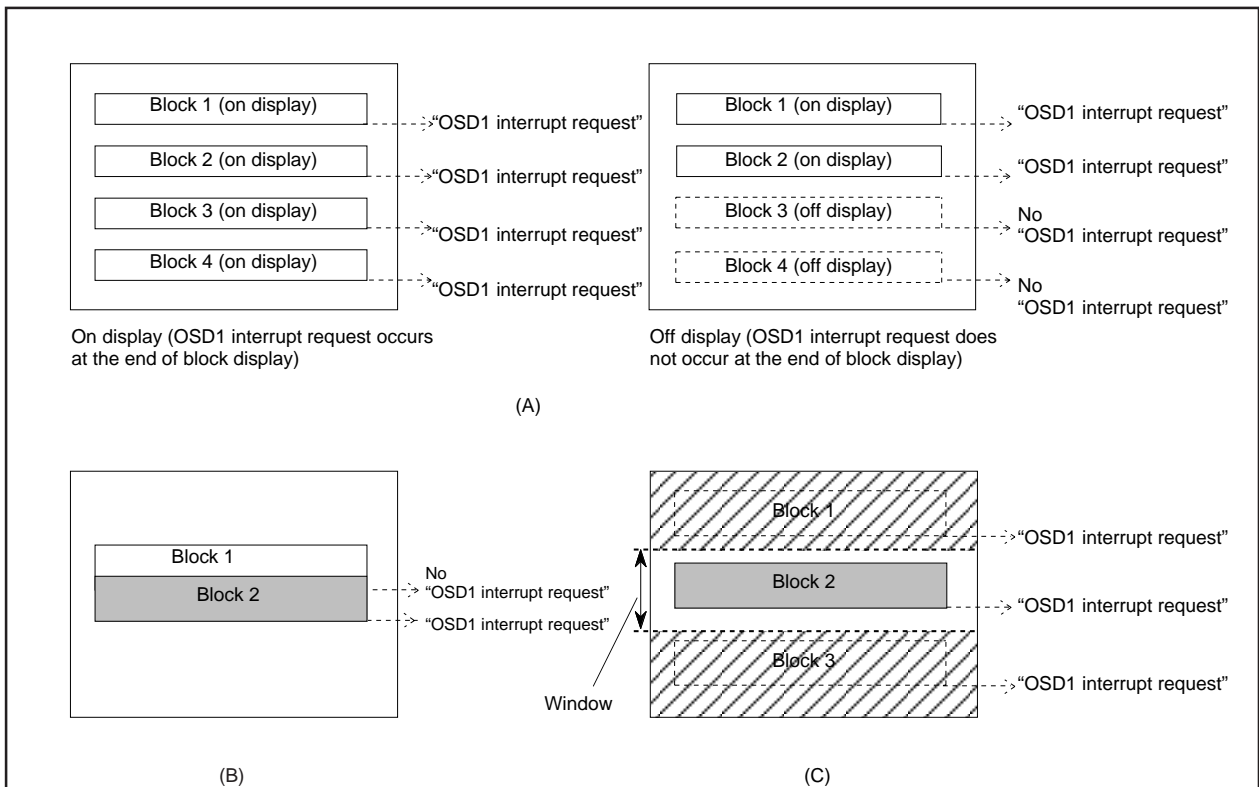

Figure 2.16.40 Note on occurrence of OSD1 interrupt
- 2:** When another block display appears while one block is displayed, an OSD1 interrupt request occurs only once at the end of the another block display (refer to Figure 2.16.40 (B)).
- 3:** On the screen setting window, an OSD1 interrupt occurs even at the end of the CC mode block (off display) out of window (refer to Figure 2.16.40 (C)).